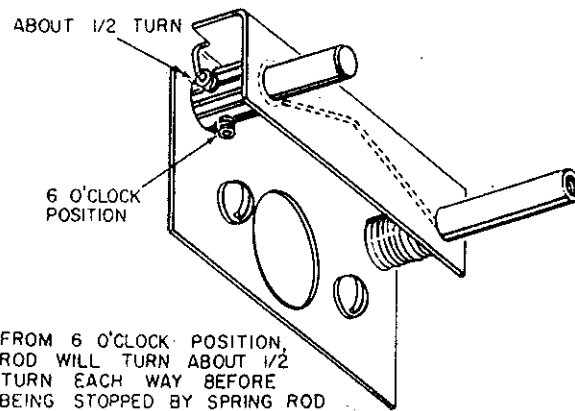

Figure 37
- D. On the other side, bend the idle adjustment coil into the rod, making sure that the setscrew is down (6 o'clock position). (See Figure 37.)